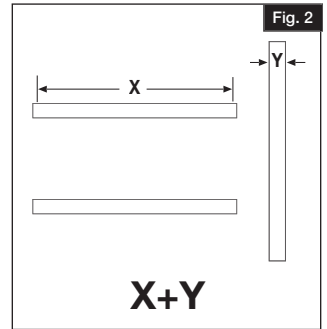

Fig. 2
Measure the width of the rails (X) plus the width of the post (Y). This is the common center-to-center measurement (unless there is a cut-down rail) for post hole location (Fig. 2).